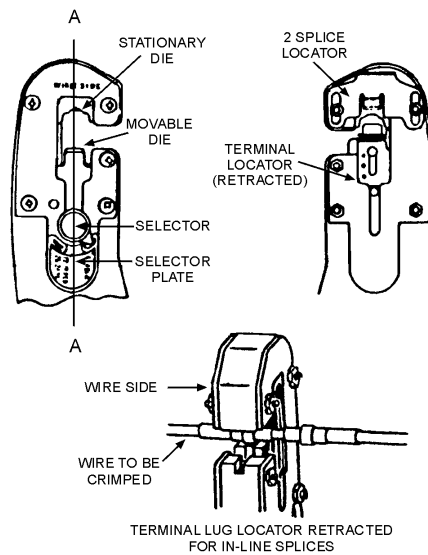

Figure 2-24.—Locating splice in crimping tool.
2. With the tool handles fully open, set the wire size selector knob to the proper position for the wire size being crimped. Slide the terminal lug locator down below the die surface into the fully retracted position. (See figure 2-24.) Slide the splice locator back into the retracted position. Insert the splice into the tool so that the "locating shoulder" on the side of the splice to be crimped is in the space between the two crimping dies. The insulation barrel on this side of the splice should protrude from the "wire side" of the tool. (See figure 2-24.) Slide the splice locator into the fully extended position. Insert the splice into the stationary die so that the locator "finger" fits into the locator groove in the splice.